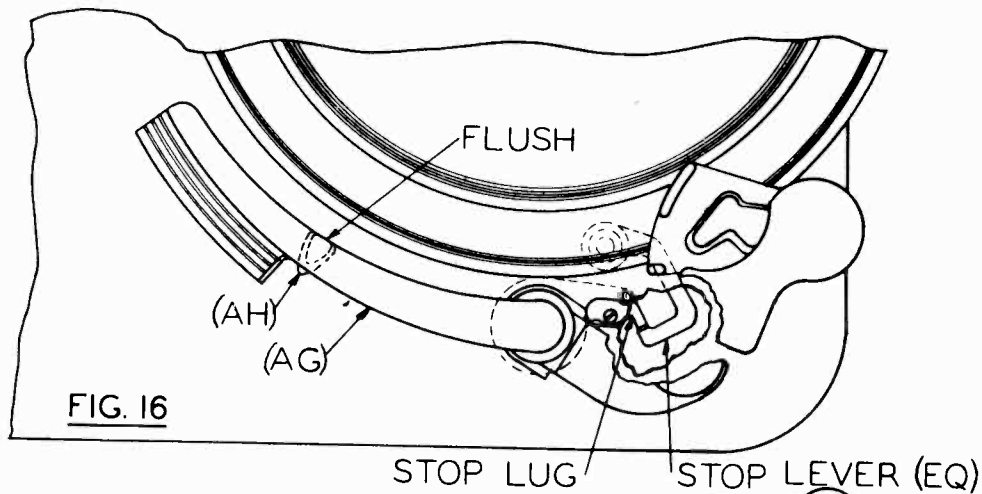
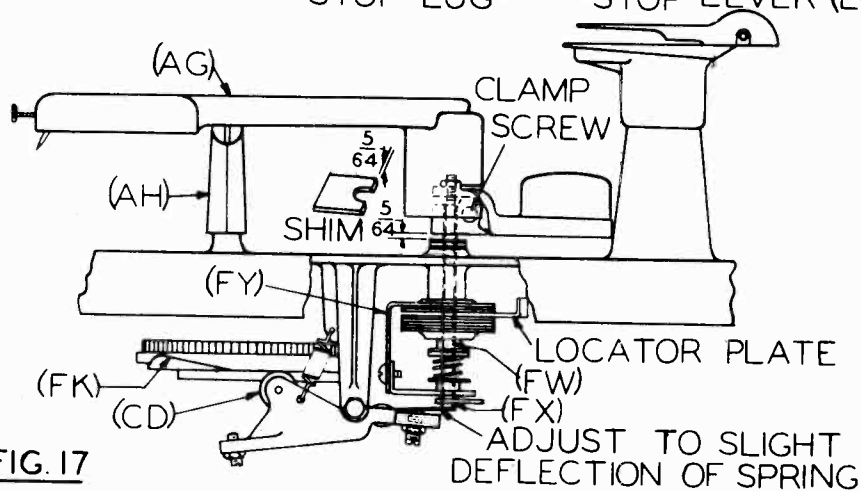

FIG. 16
FIG. 17
setting lever (EQ) by approximately 1/64" clearance (see fig. 7). Then tighten set screw and check adjustment with and without a record, also be sure that without a record, the fin on no-record selecting lever (EP) swings above cam setting lever (EQ) and portion of lever (EP), indicated by arrow on fig. 7, sweeps stop lever (EQ) on cam setting lever into position shown in Fig. 16.
First raise tone arm (AG) by hand and slightly loosen clamp screw on tone arm shaft head (see fig. 17). Then start a change cycle and shut off power supply to motor when tone arm (AG) is being held in stop position above the tone arm rest (AH) and stop lever (EQ) (on setting cam assem.) is contacting stop lug on locator plate (which is part of the tone arm shaft assem.) see fig. 16. Then insert a 5/64" shim between tone arm
shaft head and bearing race to set vertical clearance (which must be approx. 5/64") so that clutch will be engaged for moving trip lever when tone arm is down on record and align tone arm (AG) flush with tone arm rest (AH) as shown in fig. 16. Tighten clamp screw securely and remove 5/64" shim, then check action of tone arm and adjust needle landing as in adj. #1, if necessary.
raised and flat springs contacts the tone arm shaft (FX) holding clutch assembly firmly in the high position against tone arm swing bracket (FY) and only slightly deflecting the flat spring (see fig.17). Then tighten lock nut securely.